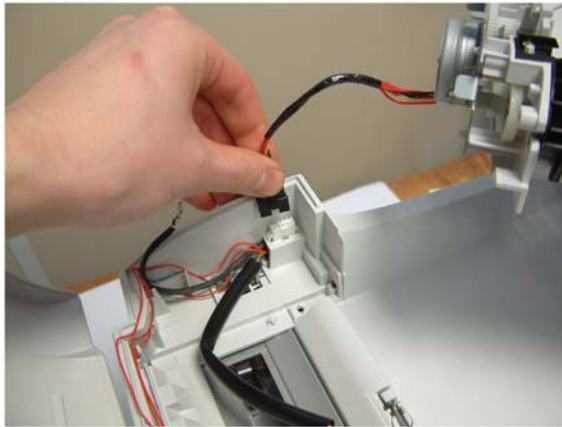

Figure 6
4. Disconnect the connector to the ADF cover and remove the assembly, Figure 6.